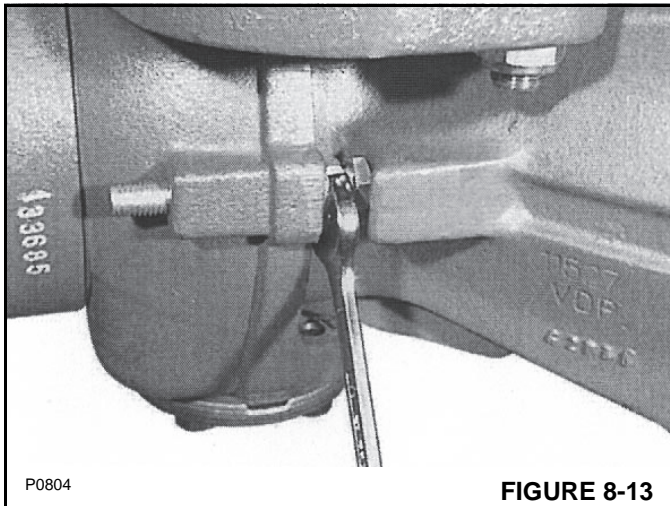

FIGURE 8-13
- Loosen the lock nut on the steering angle screw (Figure 8-13).